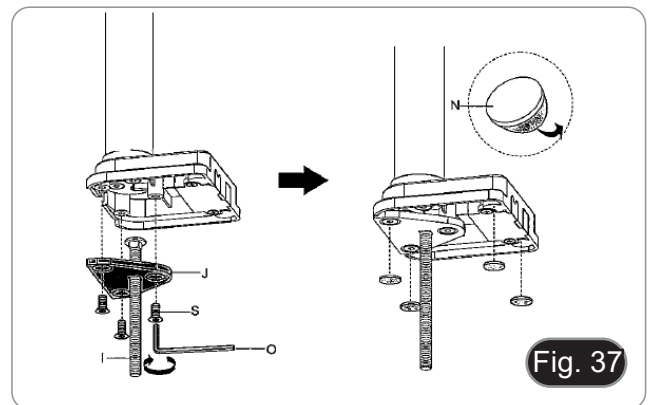

Fig. 37
3. Insert the screw (I) into the fixing plate (J).
4. Tighten the fixing plate using the three screws (S). (Fig. 37)
5. Stick the rubber dampers (N) to the table clamp.